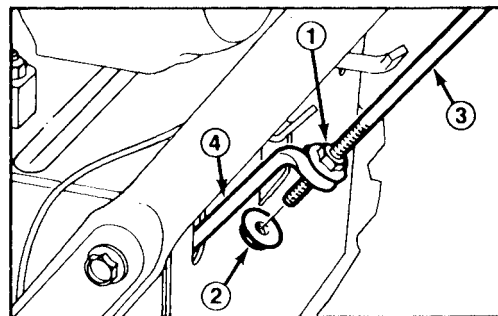
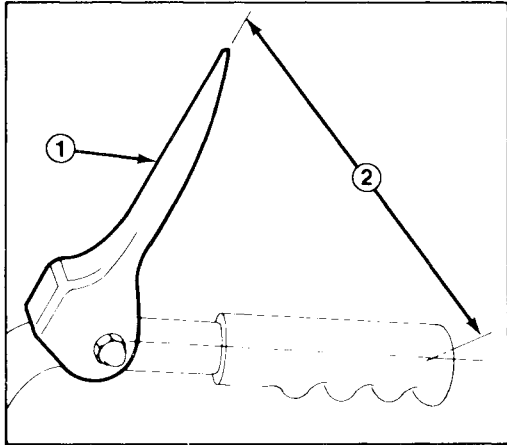

Figure 27
Figure 28
1. Loosen locknuts securing upper traction control rod to lower traction control rod (Fig. 27).
2. Adjust upper locknut (Fig. 27) until there is approximately 5 inches (12.7 cm) between the center of the handle and the tip of the traction control lever (Fig. 28).